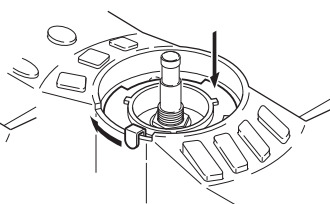

Fig. 2
2. Turn the lever section of the torque changeover lever to the left while pressing the surface of the lever as shown in the Fig. 2, and mount it onto the panel ASSY.